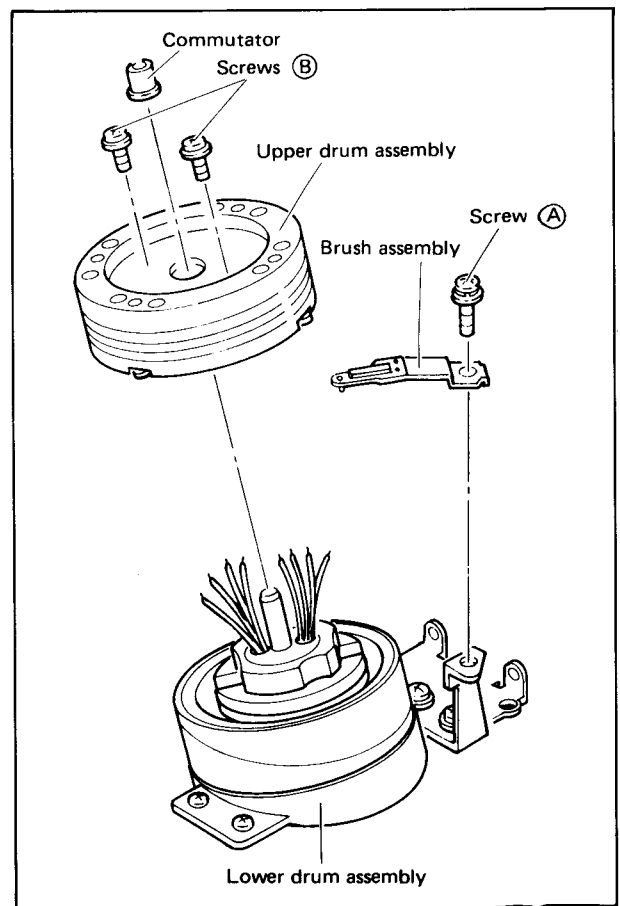

Fig. 4-11
1. Take out screw (A) and remove the brush assembly. See Fig. 4-11.
4. Take out screws (B) and remove the upper drum assembly in the upward direction.